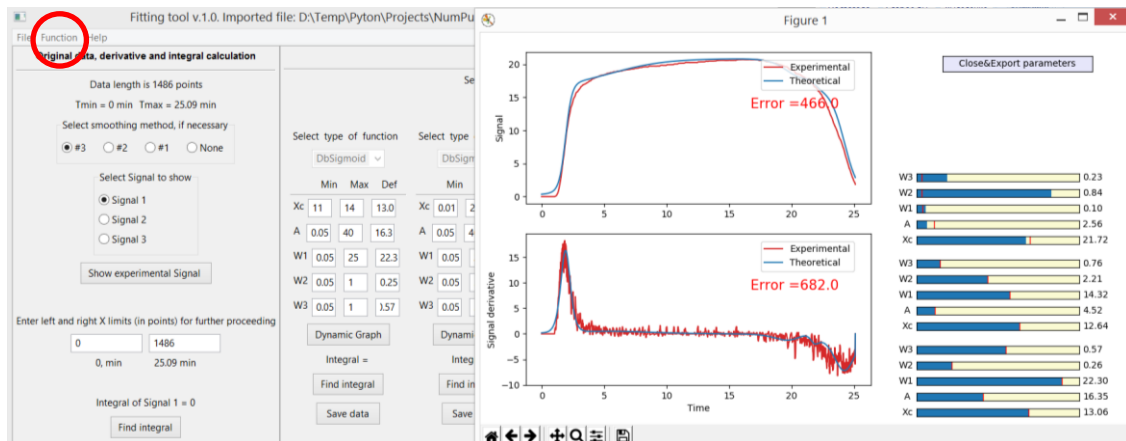

Fig. 10. Example of dynamic fitting with three function of the same type (DbSigmoid). Note by being more accurate and passion one can even better fitting.
Step 11. Press 'Global Static Graph' or 'Global Dynamic Graph' in the 'Function' menu to see static or dynamic (with possibility to modify all parameters) superposition of all functions involved in the fitting. Often adding second or third, etc. function helps to improve fitting results in term of matching the shape of both curves (original signal and its derivative) and the error values, Fig. 10.